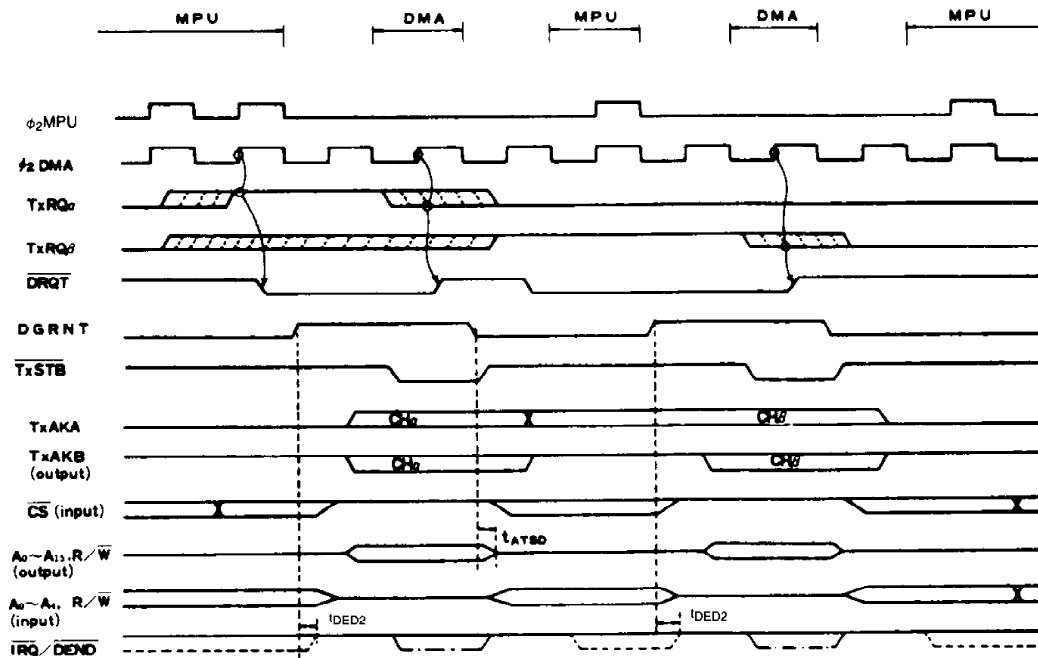
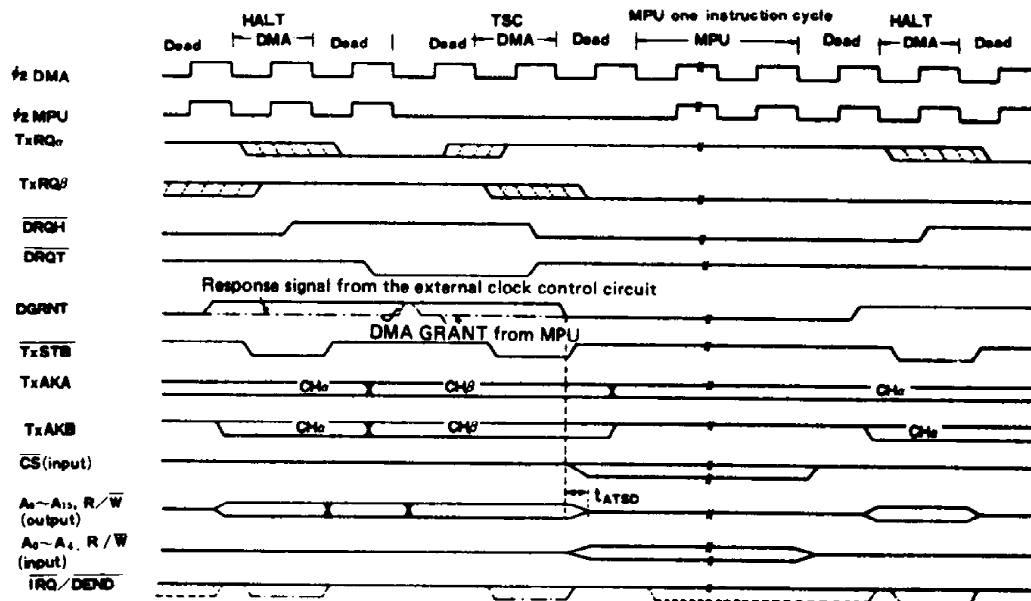
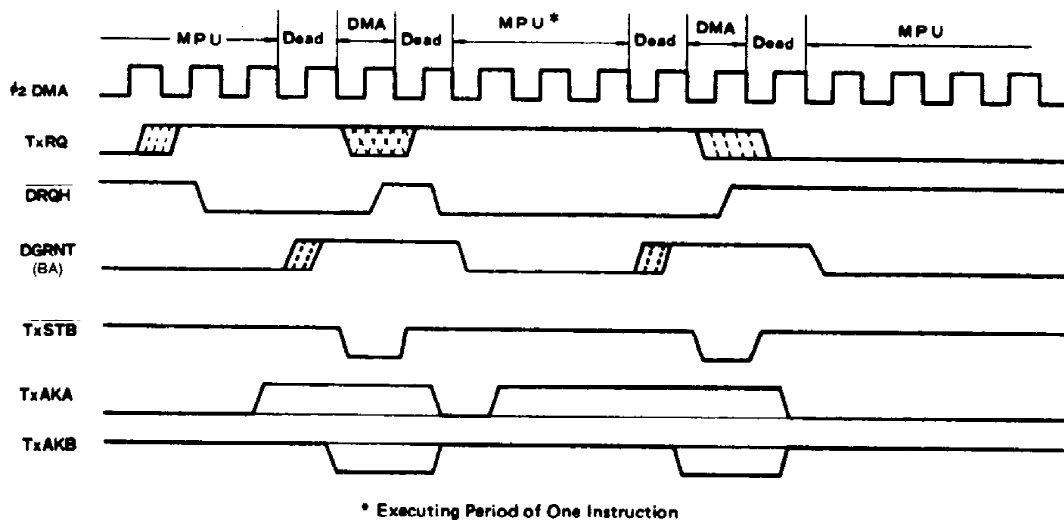

Figure 24 Channel Change (TSC Mode → TSC Mode)
Figure 25 Channel Change (HALT Mode → TSC Mode → HALT Mode)
Figure 26 Successive 2-byte Transfer of One Channel (HALT Cycle Steal Mode)
- (2) From TSC mode to TSC mode (Fig. 24)
- (3) From HALT mode to TSC mode
- (4) From TSC mode to HALT mode
- (Fig. 25)
Both in the case of HALT → TSC mode and in the case of TSC → HALT mode, DMA operation timing is based on the same idea as the above two kinds of mode change. (In detail, see Fig. 25).
The timing in the case where the next byte is transferred without changing the channel is shown in Fig. 26. This is the case of HALT → HALT mode. In this case, the bus control returns to MPU, before the next byte is transferred. In the case of TSC → TSC mode, its timing is almost the same as than in Fig. 24, that is, after 1-byte transfer has completed, MPU executes the Instruction Cycle for one clock and then DMAC executes 1-byte transfer again.